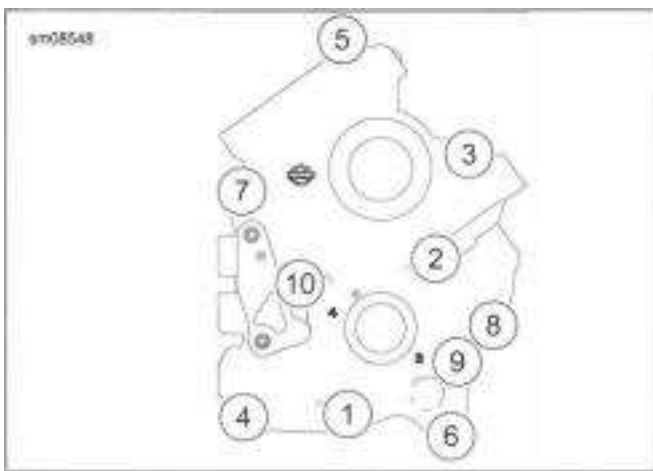

Figure 4-54. Cam Support Plate Tightening Sequence
3. See Figure 4-54. Tighten screws in sequence.